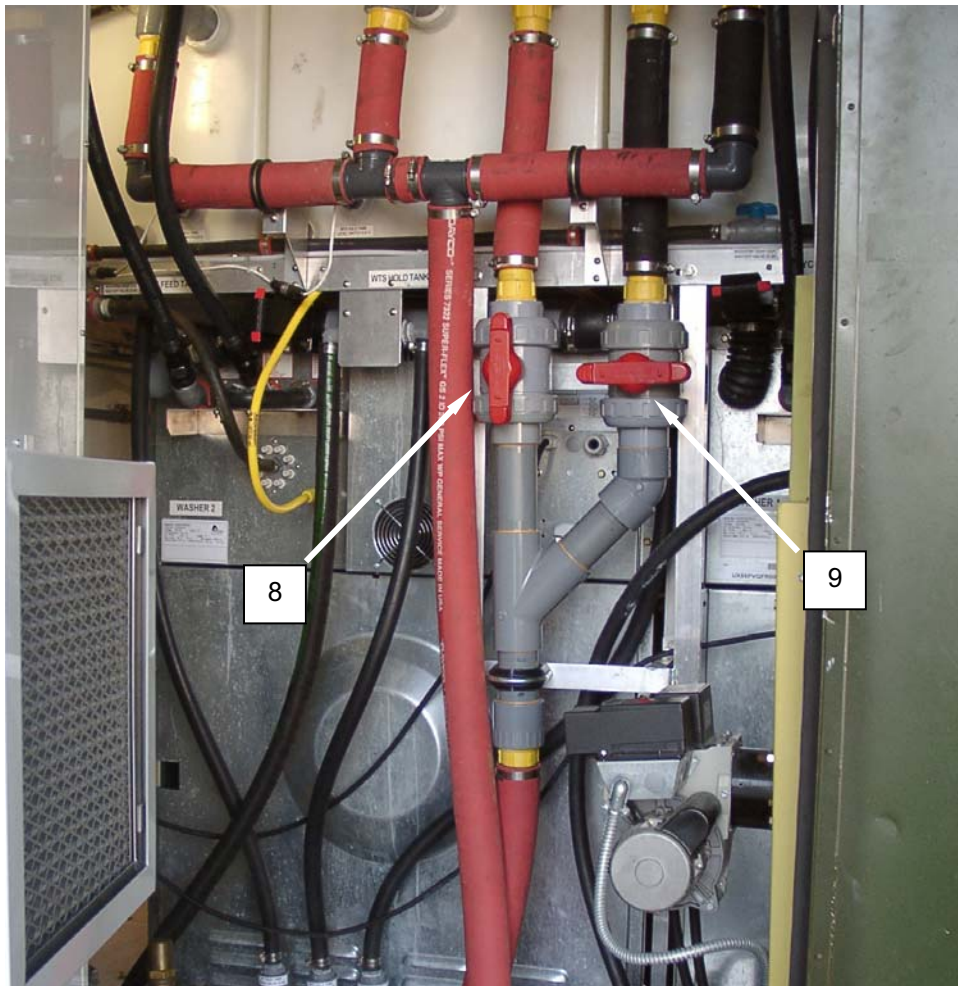

Figure 3. Valves V-15 and V-16.
2. Locate the water reuse selection valves V-15 (**Figure 3, Item 8**) and V-16 (**Figure 3, Item 9**) located behind the washers.